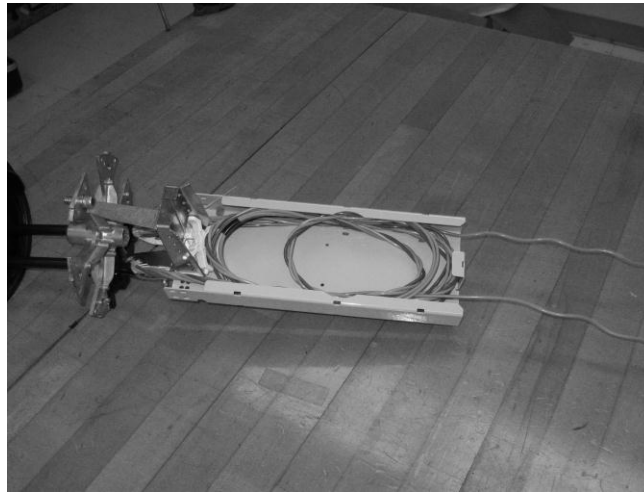

Figure 22 – Store the express tubes in the slack storage basket.
5.10 Route Buffer Tubes and Fibers: Route and store the express buffer tubes in the slack storage basket. Do not cut or slit the express buffer tubes and do not route them to the splice tray. Note that the active buffer tube has been separated from the express tubes as shown in Figure 22.